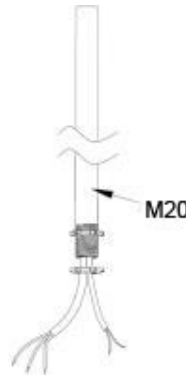
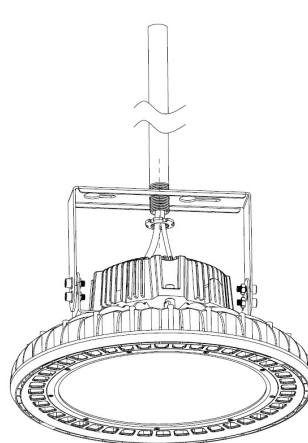

Figure 8
Figure 10
1. Unscrew the nut on M20 (Figure 8).
3. Re-cycle and tighten the nut (Figure 8) that unscrewed from the M20 (Figure 10).